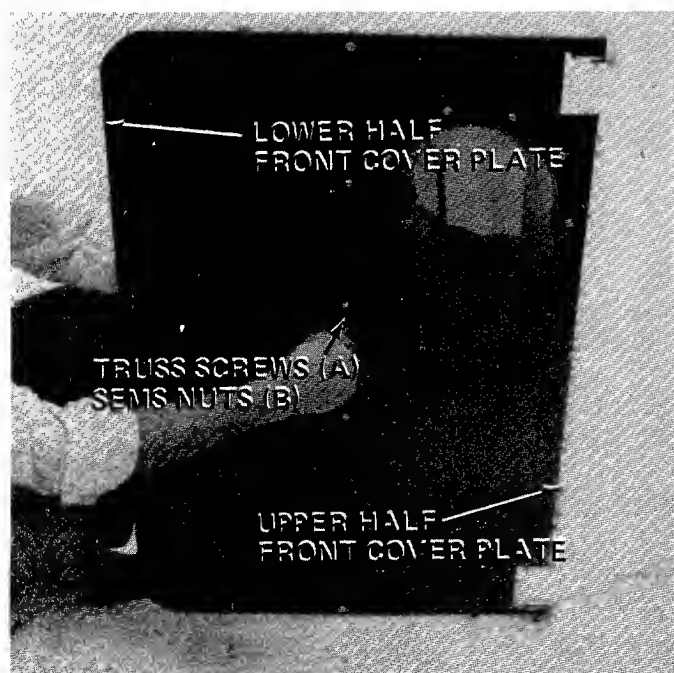

FIGURE 12
13. Assemble the upper and lower front cover plates with six truss screws (A) and hex sems nuts (B). See figure 12.